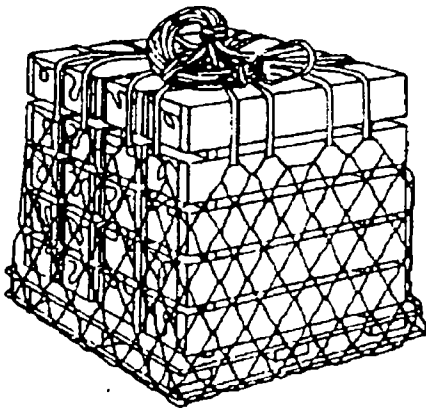

Figure 1-14. Lifting Legs Coiled on Top of Load
Step 8 - Coil the lifting legs on top of the load. The net is now ready for hookup to the helicopter (Figure 1-14).